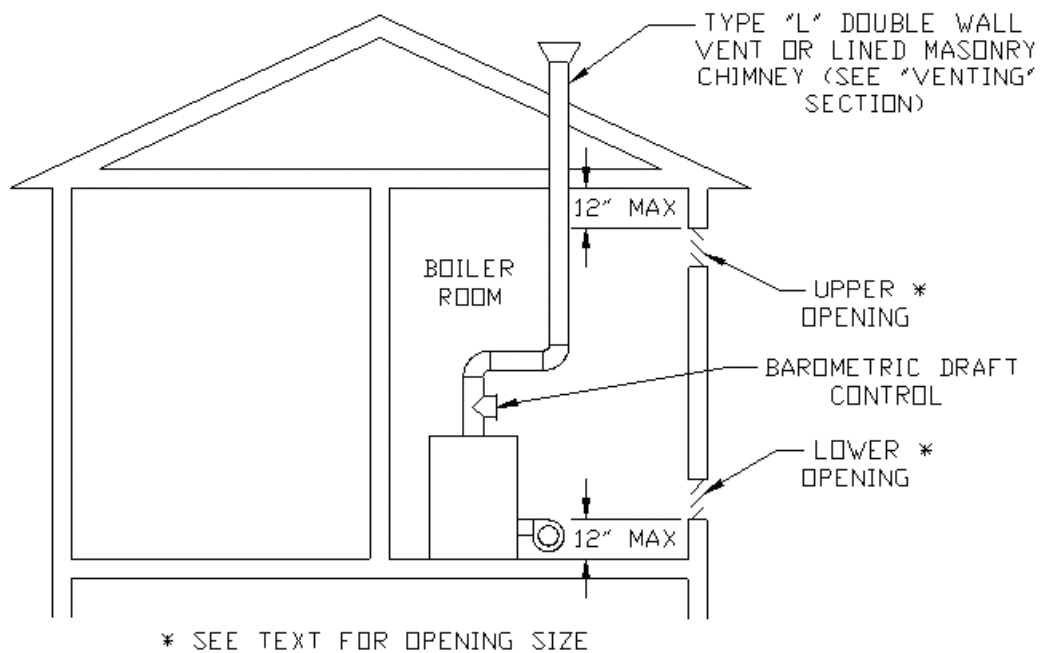

FIGURE 5.3: ALL AIR FROM OUTDOORS, USING OPENINGS INTO BOILER ROOM
- Vertical ducts or openings directly outdoors (Figure 5.1, Figure 5.2, and Figure 5.3) - Each opening must have a free cross sectional area of 1 square inch per 4000 BTU/hr of the total input of all fuel fired appliances in the boiler room but not less than 100 square inches. Minimum opening size is 3 inches.